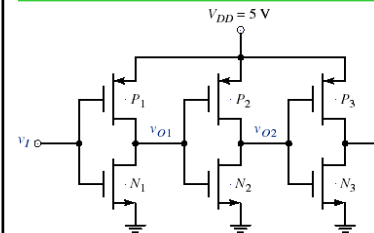

Figure P16.31
**16.31** Consider the series of CMOS inverters in Figure P16.31. The threshold voltages of the n-channel transistors are  $V_{TN} = 0.8 V$ , and the threshold voltages of the p-channel transistors are  $V_{TP} = -0.8 V$ . The conduction parameters are all equal. (a) Determine the range of  $v_{O1}$  for which both  $N_1$  and  $P_1$  are biased in the saturation region. (b) If  $v_{O2} = 0.6 V$ , determine the values of  $v_{O3}$ ,  $v_{O1}$ , and  $v_I$ .